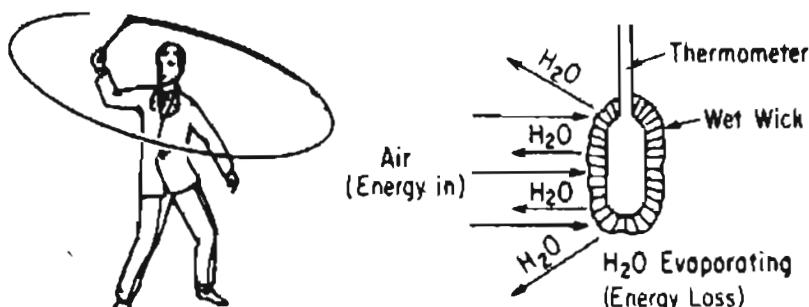

Figure 29.1 Web-bulb temperature obtained with a sling psychrometer.
- d). The **wet-bulb temperature** (T_{WB}) is something new. As you may guess, even though you may never have heard of this term before, it has something to do with water (or other liquid, if we are concerned not with humidity but with saturation) evaporating from around an ordinary mercury thermometer bulb. Suppose that you put a wick, or porous cotton cloth, on the mercury bulb of a thermometer and wet the wick. Next you either (1) whirl the thermometer in the air as in Figure 29.1 (this apparatus is called a sling psychrometer when a wet-bulb and a dry-bulb thermometer are both mounted together), or (2) set up a fan to blow rapidly on the bulb at a high linear velocity. What happens to the temperature recorded by the wet-bulb thermometer?